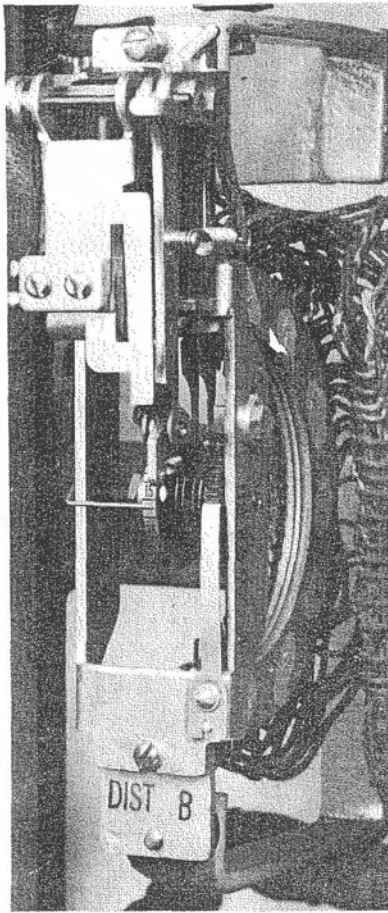

Figure 9. Distributor.
**3.3 Distributor.** The distributor switch (figure 9) determines which linefinder will operate next. When activated by the line equipment, the group relays send a "finder start" signal, through the distributor switch, to a preselected linefinder. After the finder has switched the calling line through to the first selector, the group relays step the distributor to the next idle linefinder.